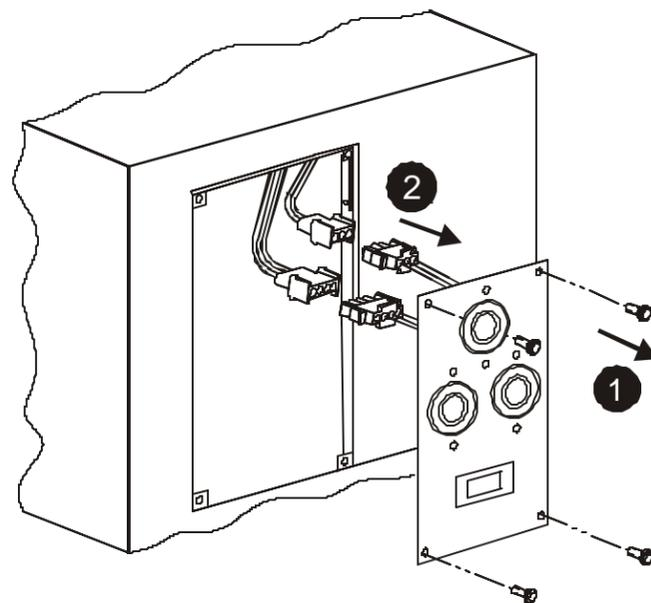

Figure 3.1 Removal of Existing Panel
1. Remove the 4 screws that retain the access panel as shown in Fig. 3.1, and set aside. These screws will be used later in step 3.2.4.